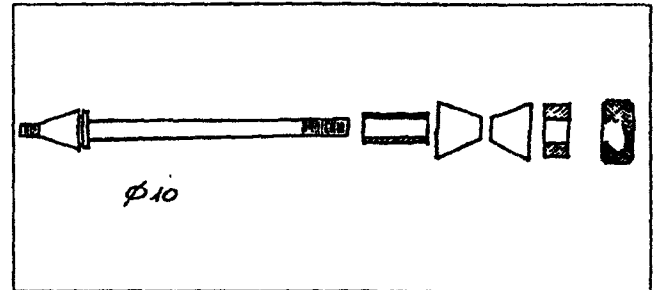

Fig.14
**#4018395 MS10 kit (Fig. 14).**